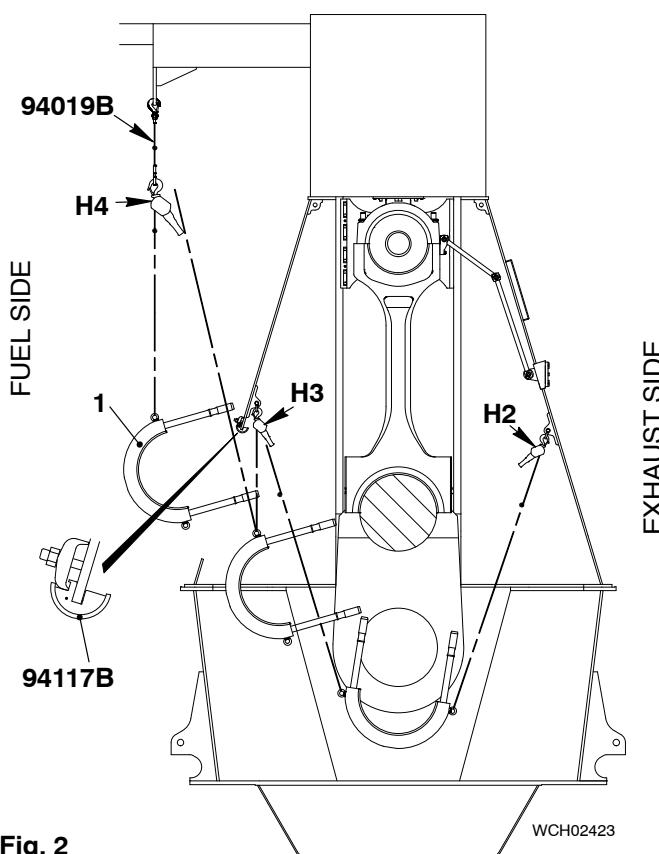

Fig. 2
- 5) Attach the chain (94019B, Fig. 2) to the gallery.
- 8) Operate the manual ratchet (H2, H3) to move the bearing cover (1) to the fuel side.
- 9) Disconnect the manual ratchet (H2) from the bearing cover (1).
- 10) Connect the hook of the manual ratchet (H4) to the bearing cover (1).
- 11) Lift bearing cover (1) out of the crankcase.